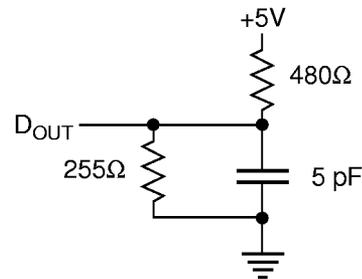

Figure 2. Output Load Equivalent
5. The parameter is tested with $C_L = 5 \text{ pF}$ as shown in Figure 2. Transition is measured $\pm 200 \text{ mV}$ from steady state voltage